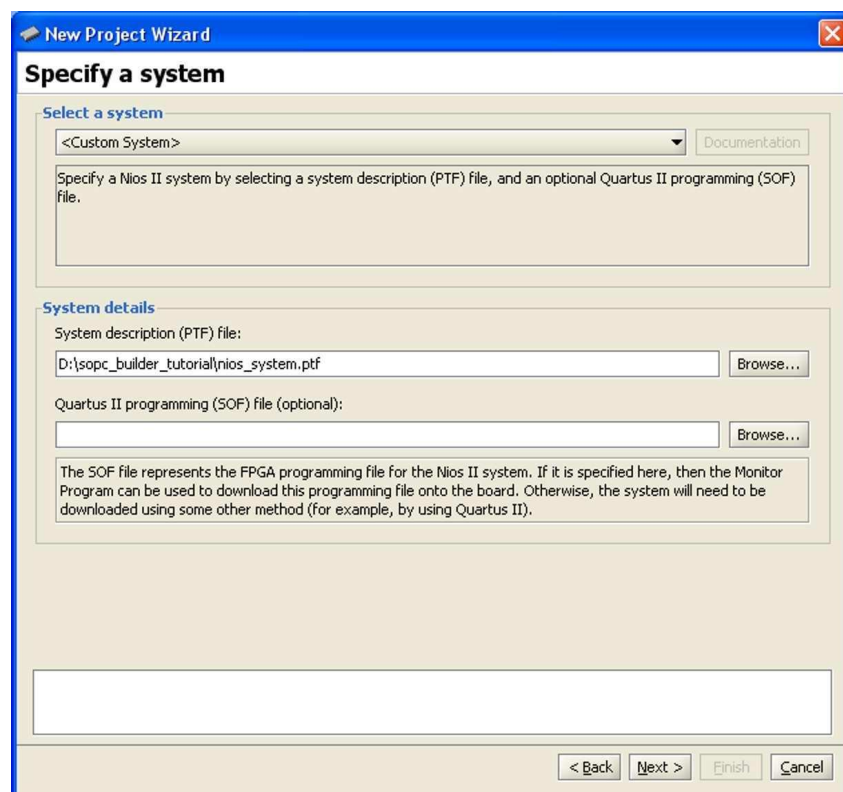

Figure 23.The System Specification window.
2. Enter `lights` as the Project name and click **Next >**, leading to Figure 23.